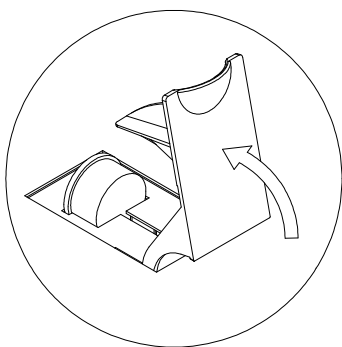

fig.1
- Place the cup under the coffee spout (D).
- Open the door (G) on top of the appliance and place the capsule in the guide (fig. 1).
- Close the door (G) and press lightly.